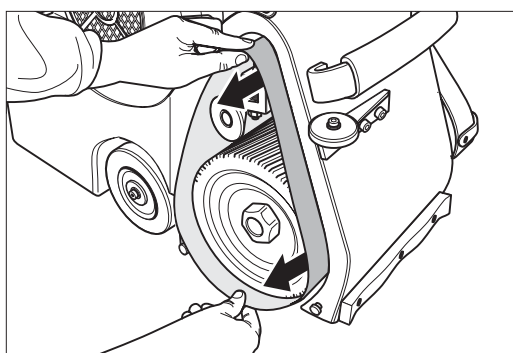

Fig. 12 Remove the worn sanding belt from the roller.
- 5 Exchange the sanding belt while the sanding drum is raised off the floor (Figs. 12 and 13).